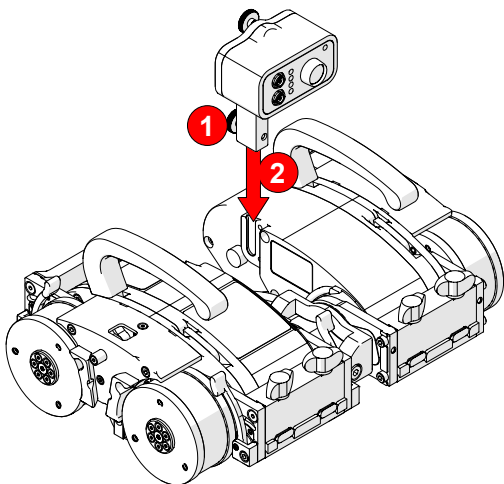

Fig. 26 - Mount preamp to the dove-tail accessory mount
1. Loosen the knob of the preamp mounting bracket **1** (Fig. 26).
2. Align the preamp's mounting bracket with the NAVIC's dove-tail accessory mount **2** (Fig. 26).